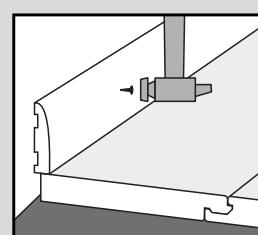

Fig. 7
8. Under door frames: If plank/tile cannot be lifted use an adapted tapping block (off-cut of material) and mallet to carefully tap the plank/tile together flat on the floor (Fig. 7).